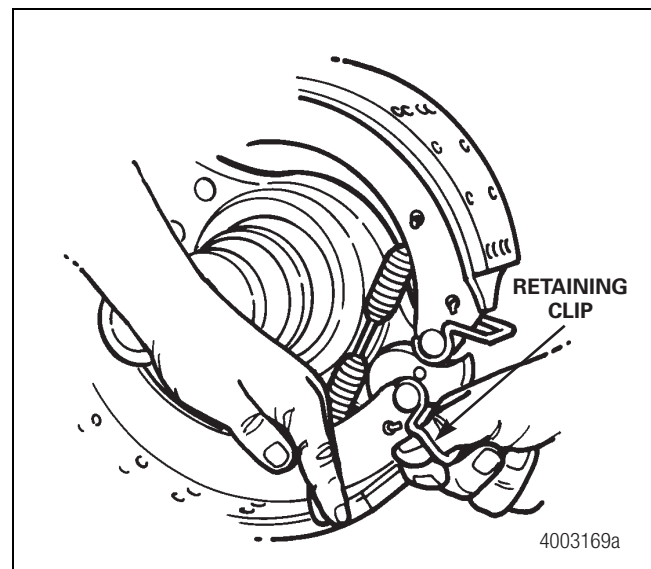

Figure 3.11
1. Push down on the bottom brake shoe and pull on the roller retaining clip to remove the bottom cam roller. Figure 3.11.